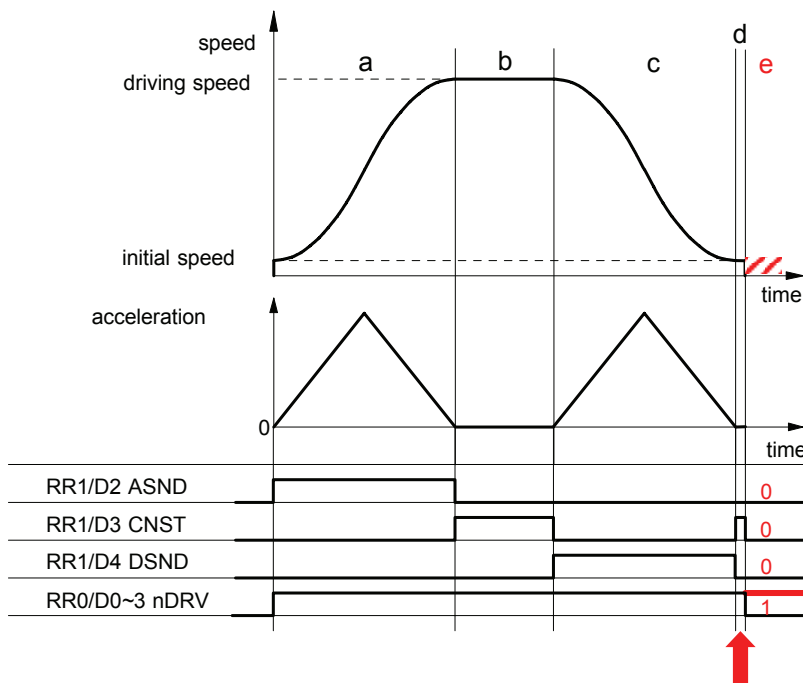

Figure 3. Status of deceleration shown by RR1 register
Deceleration status of accelerating(ASND), constant speed driving(CNST) and decelerating(DSND) can be read out according to RR1 register of IC. The status is shown as Figure 3. as below ;
The timing when the trouble may possibly happen is shown as “d” on Figure 3. At this time, status of deceleration is constant speed driving(CNST=1). Besides in case the trouble such as outputting pulse continuously happens, all of ASND, CNST and DSND will become 0 even though it's driving(RR0/nDRV=1).
Basically once deceleration starts, it isn't necessary to execute deceleration stop command. Therefore deceleration stop command should be prohibit. See nRR1/D4(DSND) normally to know it's decelerating or not. Timing when the trouble happens is in “d” as shown on Figure 3 if deceleration stop command is executed. In “d” DSND status bit is 0 and CNST status bit is 1. Therefore the following two(2) solutions will be proposed.
(1) When interruption from IC can be used
Terms when deceleration stop command should be executed in accelerating and constant speed driving such as "a" and "b" on Figure 3. Status of deceleration for both "d" (timing when the trouble happens) and "b" (constant speed driving) is same as constant speed driving as shown on Figure 3. But there is difference of driving speed between two. Driving speed in "b" is near that of setting driving speed. Driving speed in "d" is near that of initial speed. Therefore before driving starts, prepare judgmental speed which is middle one between initial speed and setting speed ($(\text{Driving speed} - \text{initial speed})/2 + \text{initial speed}$). When execute deceleration stop command during driving, make sure status is accelerating(ASND=1) or constant speed driving(CNST=1) and driving speed is same or faster than judgmental speed.
Constant speed area ("b" area) on Figure 3 is set as occurrence factor of interruption. But this interruption is also happened when there is "d" area just before driving stops on Figure 3 such as when driving speed reaches initial speed or when acceleration becomes 0(zero). There should occur "d" area definitely if the trouble is happened just before driving stops, driving speed hasn't reached initial speed yet, acceleration becomes 0 and decelerating stop requirement is executed. The measure is to judge if the trouble happens or not in the timing of interruption when "d" area ends.
- ① Check if driving goes out constant speed area or not. If RR3/D5(C-END) bit of driving axis is 0, there are other interruption factors. Execute those interruption processing.
- ② Check if driving goes into decelerating area or not. If it's RR1/D4(DSND)=1, make it finished as it goes because driving goes into "c" area from "b" area on Figure 3. If it's RR1/D4(DSND)=0, move it to ③ processing because driving has gone out "d" area.
- ③ Check if driving has finished or not. If it's finished, make it finished as it goes because driving has finished normally. But if it's not finished yet, surely trouble have happened because status is shown as it's still driving even though driving has gone out "d" area.
- ④ Check if hard limit is ON or OFF. Since RR1/D12 bit becomes 1 if + limit is ON and RR1/D13 bit becomes 1 if - limit is ON, if it's D12=1 or D13=1, judge forward limit is ON.
- ⑤ If trouble has happened, it becomes ASND=CNST=DSND=0. Check them all.
- ⑥ Execute sudden stop command(27h).
(2) When interruption can't be used
In “d” area on Figure 3, if forward limit is active, the trouble will happen, more exactly saying, it will seldom happen. There isn't any method to avoid it before it happens. So immediately after the trouble happens, take means to stop driving. If the trouble happens (“e” area on Figure 3), status keeps driving(RR0/nDRV=1), status of acceleration/deceleration is 0 in ASND, CNST, DSND. This is completely abnormal state. So the example of measure is shown as follows;